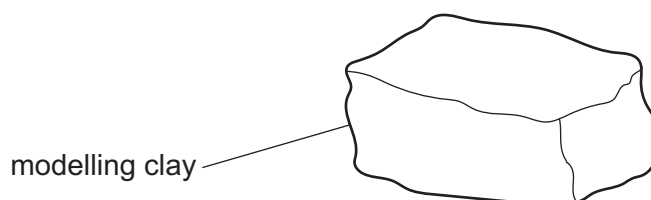

Fig. 1.1
2. Block A must be moulded by hand into an approximately rectangular solid, as shown in Fig. 1.1. The exact dimensions are not important, but the length, width and height must have different values from each other. The edges should not be completely straight.